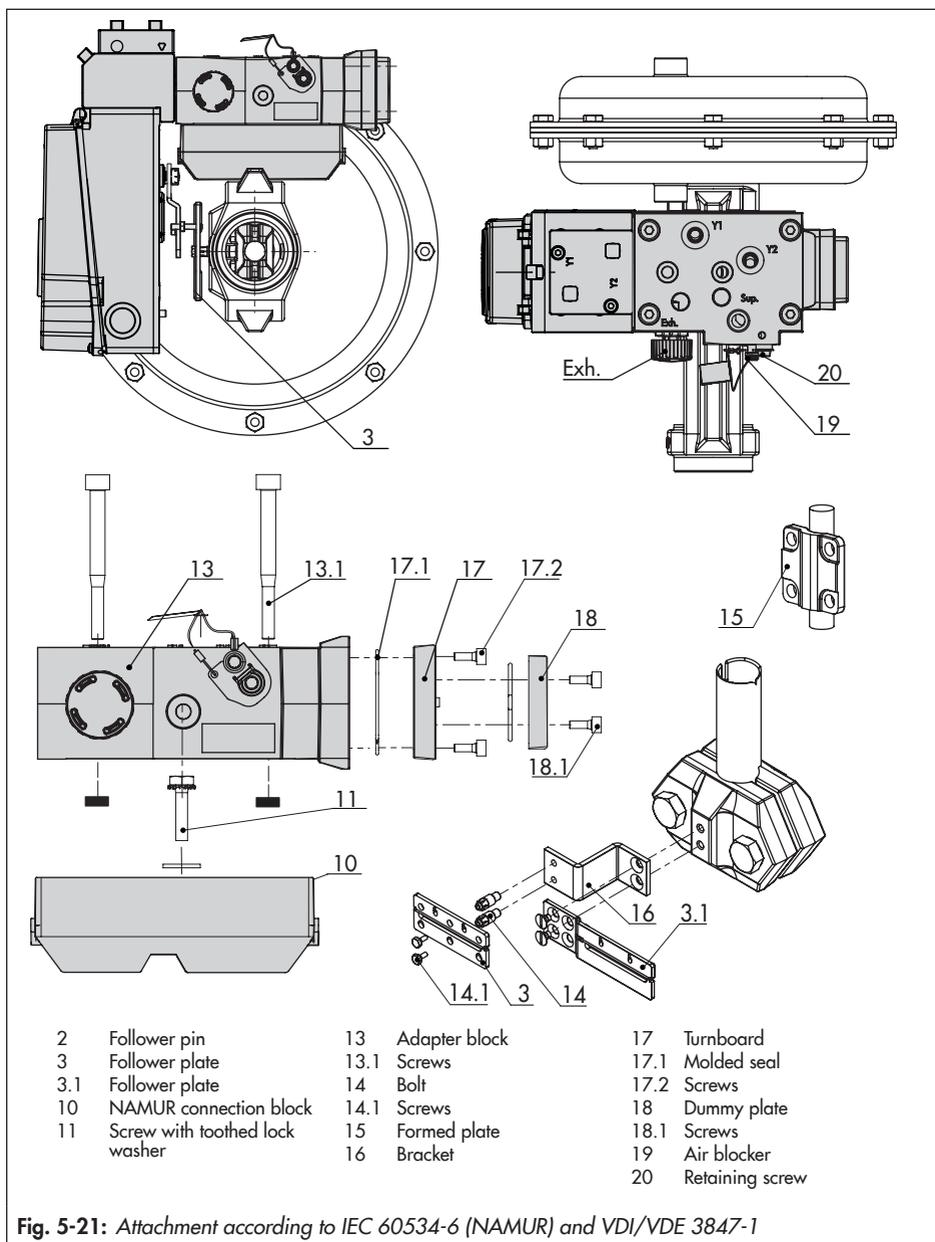

Fig. 5-21: Attachment according to IEC 60534-6 (NAMUR) and VDI/VDE 3847-1
- See Fig. 5-21
1. Series 240 Valves, actuator size 240 to 1400-60 cm²: Screw the two bolts (14) to the bracket of the stem connector or directly to the stem connector (depending on the version), place the follower plate (3) on top and use the screws (14.1) to fasten it.